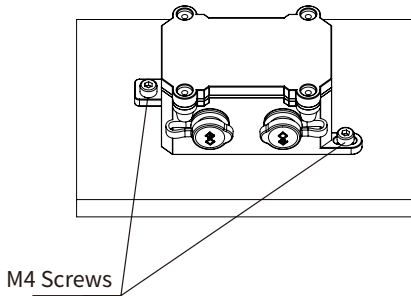

Figure 3-8
Step 6: Place the driver module on the proper position on the board and fix it with M8 screws (refer to figure 3-8 for the fixing holes).